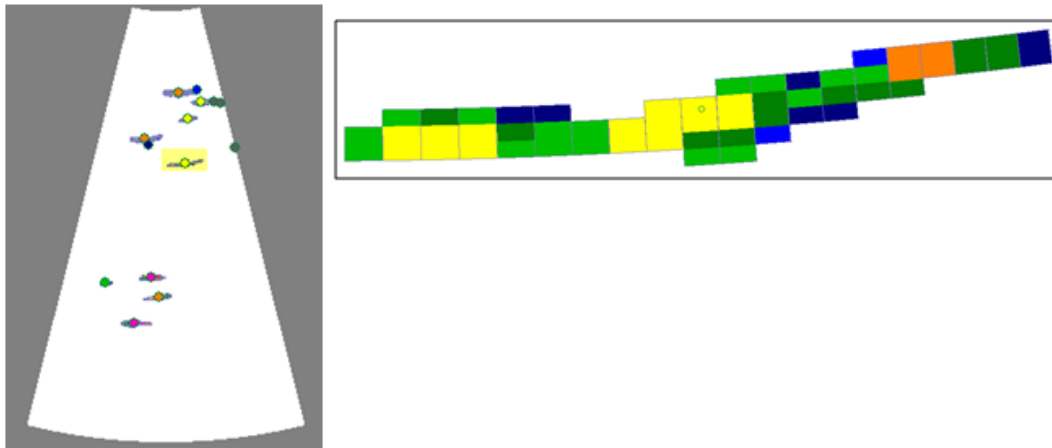

Figure 7. Close up of the highlighted multibeam target in ping 34.
16. On the Multibeam target detection echogram zoom in on a target (refer to Topic 2). The color scheme for the input data under targets is controlled by the input operand Beam median filter 3x3. To match the inset for Figure 7 you may need to adjust the **Echogram color settings** of the **Beam median filter** variable. Adjust F11/F12 on the Beam median filter echogram, while viewing the target.